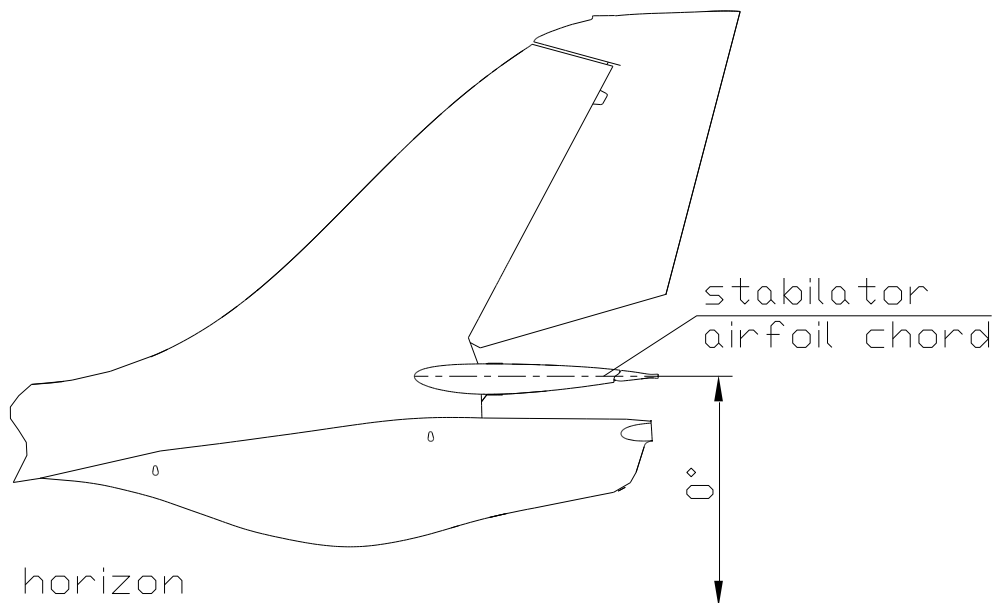

Fig. 4-28
2. Check that once the Stabilator stops rocking, its airfoil chord remains aligned with the horizon (Fig. 4-28). If the Stabilator airfoil chord remains parallel to the horizon, then the Stabilator is balanced, and it can be installed on the fuselage as per 4.3.4.2.